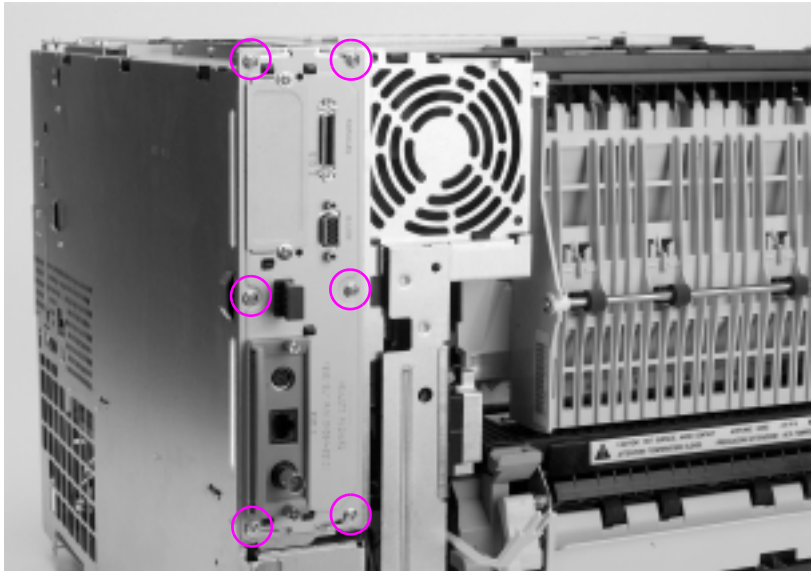

Figure 6-24 Formatter removal and replacement
- 3 Remove the six screws in the formatter as shown in Figure 6-24.